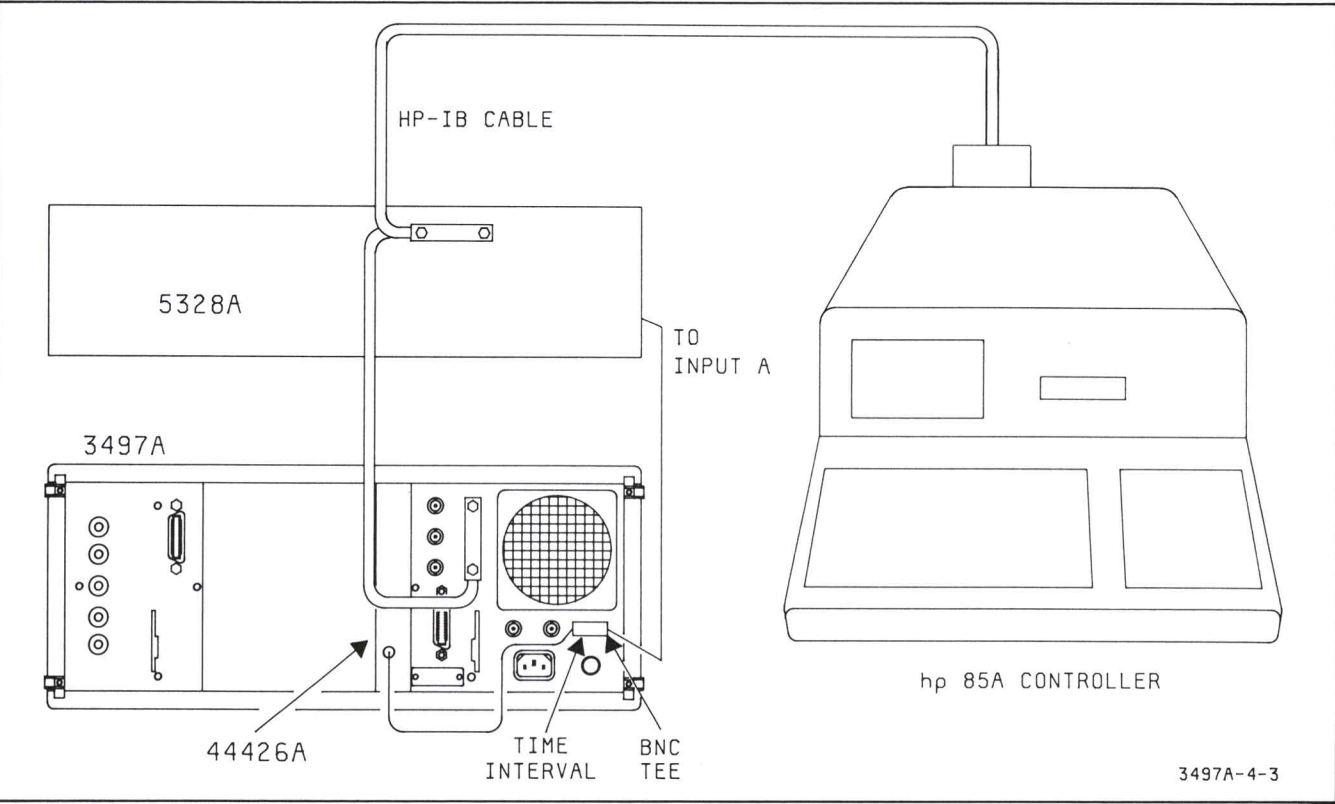

Figure 4-3. Mainframe (HP-IB) Test Connection
- c. Refer to Figure 4-3. Connect one HP-IB cable from the computer to the counter and connect another cable from the counter to the 3497A.